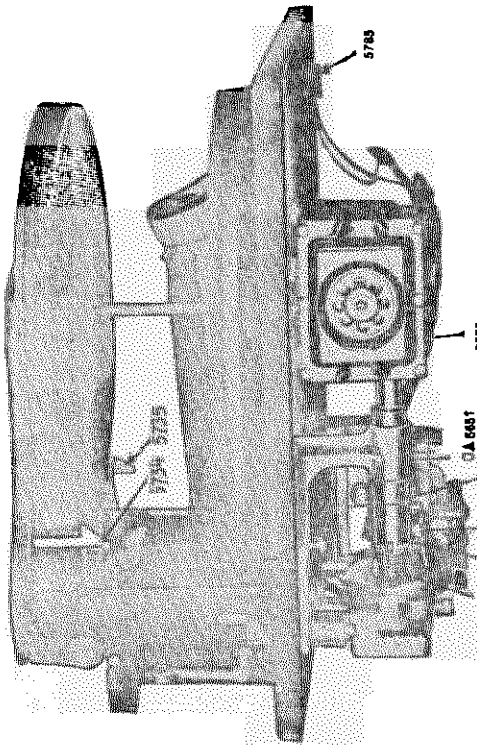

Fig. 4
* Fig. 4 shows the circuit used. As is seen, it consists essentially of two motors, one for turning the volume control and the other the tuning condensers, and means for controlling the direction and amount of rotation of the motors from a remote point. Each of the motors has two field windings, poled in such way that switching from one to the other reverses the direction of motor rotation.
Study of fig. 4 reveals that when any one of the station buttons is pressed, the circuit is completed through the contact stud connected to it and the station-selector motor revolves, turning the tuning condensers and the split brass disk fastened to the condenser shaft. The motor continues to drive the condenser shaft (through a friction drive) until the insulating slit in the brass disk comes directly under the contact stud and breaks the circuit. When the slit is under the contact stud, the tuning condensers are in proper position for reception of the station. Should the momentum of the motor be sufficient to carry the disk past the point where the stud and slit coincide, the stud
Should either or both of the drive-motors refuse to run, or run in only one direction the following procedure may be followed: Connect one end of a length of wire to contact "C" of the receptacle (fig. 4.) and touch the other end alternately to each lug of the condensers mounted next to the volume control drive motor. If the motors run, and in both directions, the trouble is in either the cable, the remote-control push-button box, or the contacts on the brass disk. A continuity check will reveal the open circuit.
If the motors do not run when the wire is touched to the condenser lugs, the fault may lie in the voltage supply, the motor proper or in the 0.1 mfd filter condensers. An a.c. voltmeter connected from "C" (fig. 4) to the chassis should give a reading of approximately ten volts. If no reading is obtained, the trouble may be either a blown fuse or an open transformer. If a reading is obtained the 0.1 condensers should be tested for breakdown. If they prove perfect, the trouble is in the motors and they should be tested for shorted or open windings. In particular, the brushes should be examined for good contact with the commutator, and the commutator itself brightened with a piece of very fine sandpaper. In time the spider washers in the friction drive may lose some of their tension, resulting in slippage in the drive. These washers are easily removed and bent to increase their tension.